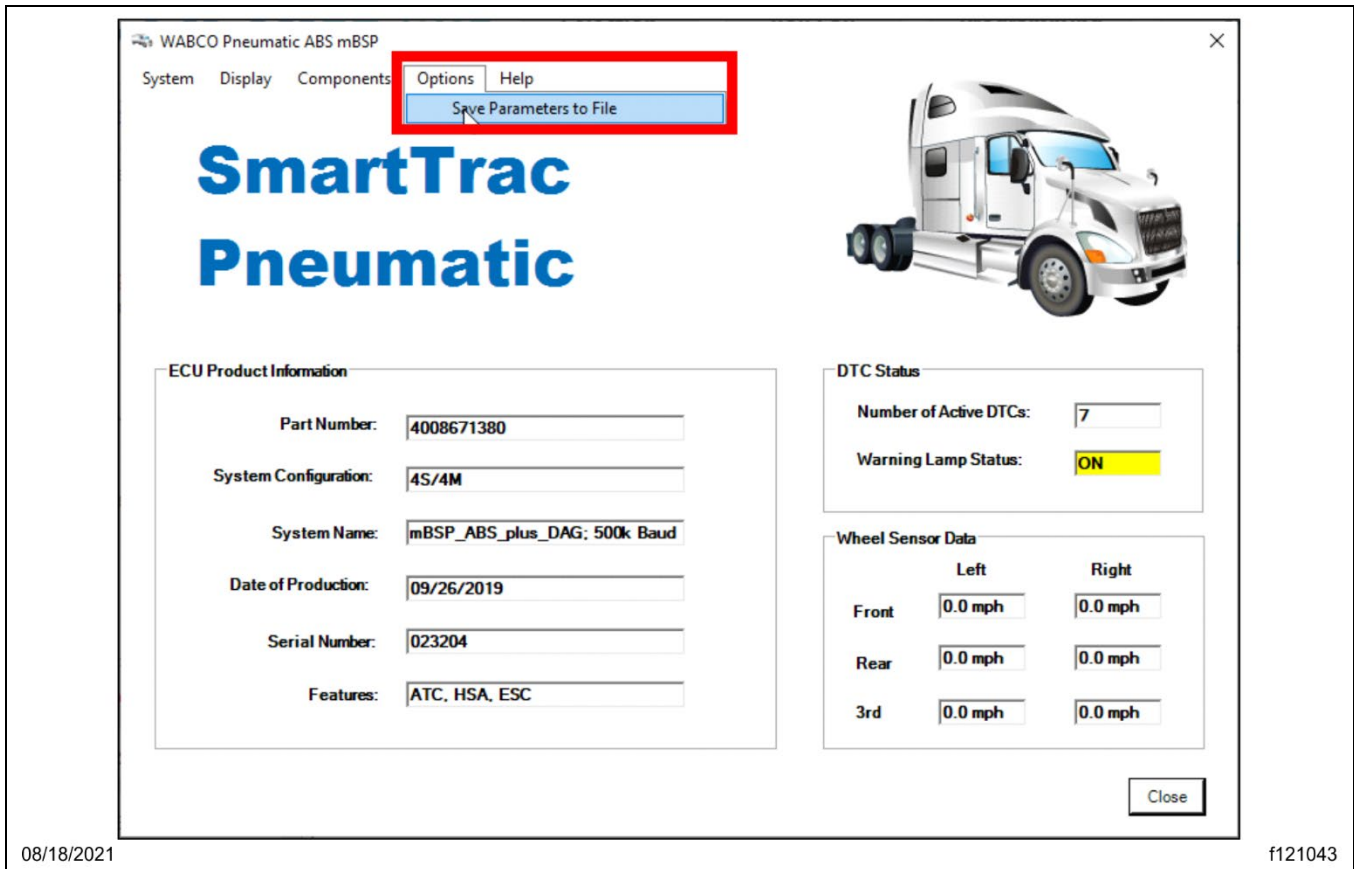

Fig. 62, Choosing the Save Location
21. From the menu bar, go to 'Options' and select 'Save Parameters to File.' See Fig. 62.